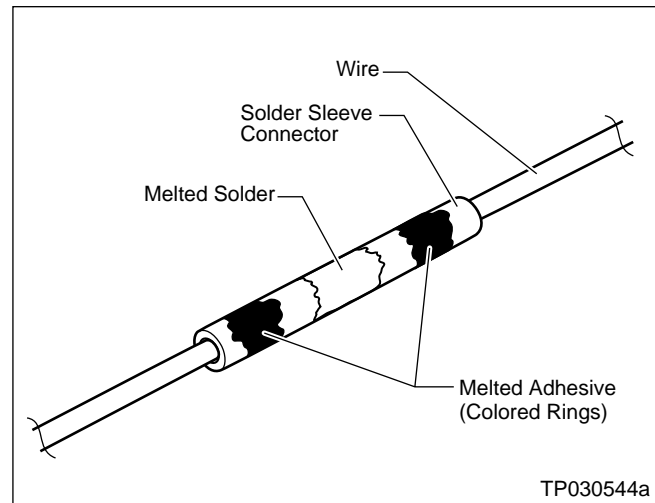

Figure 6
- Melt the solder (silver ring inside solder connector) into the exposed twisted wire area (see Figure 6)
- Melt the sealant (colored rings inside solder connector) onto the wires (see Figure 6)